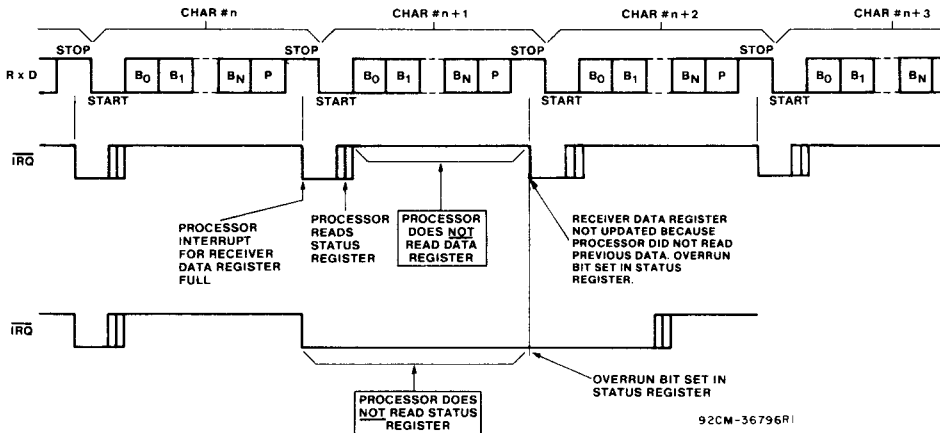

Fig. 11 - Effect of overrun on receiver.
**Effect of Overrun on Receiver (Fig. 11)**